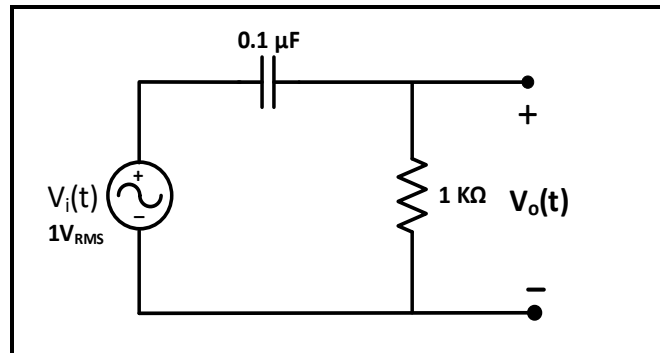

Figure 10.13
1. Calculate the cut-off frequency (f_c) for the high pass and low pass filters shown in Figures 10.13 and 10.14 (use the formulas in the introduction of experiment).
1. Connect the circuit of Figure 10.13, with a sinusoidal input voltage at 1 V_{RMS}.